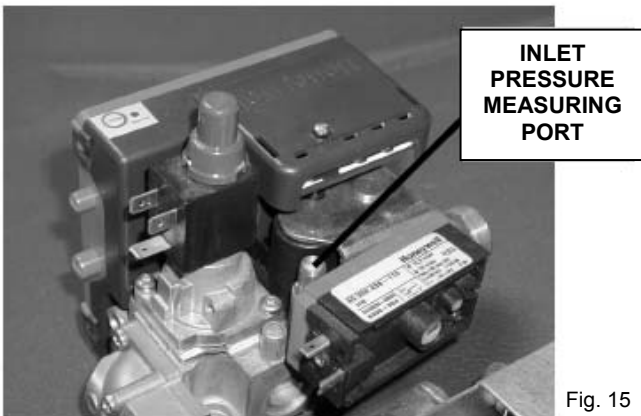

Fig. 15
- Place the tube of the “accurate” manometer on the Inlet pressure port (Figure 15) of the Gas Regulating Valve after having loosened the screw by one turn